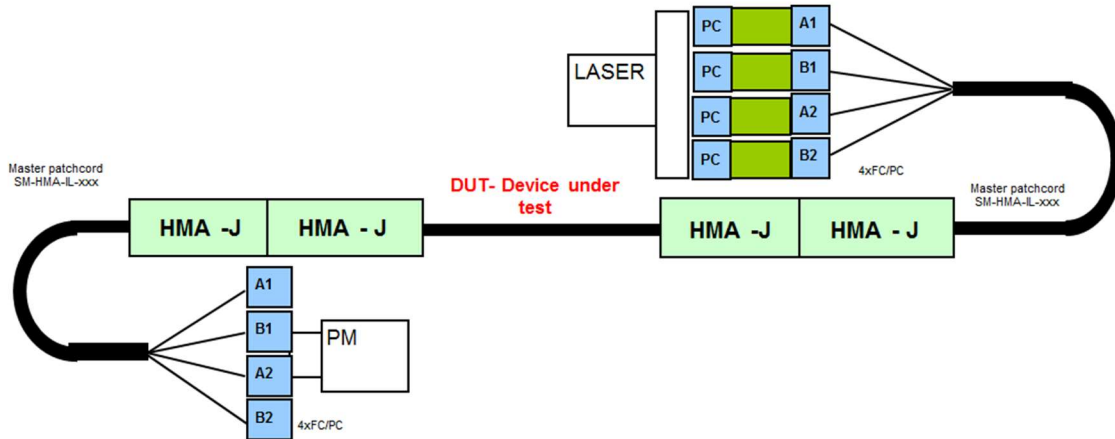

Figure 4: HMA cable measurement
- Connect DUT between both Master cables, Fig. 4